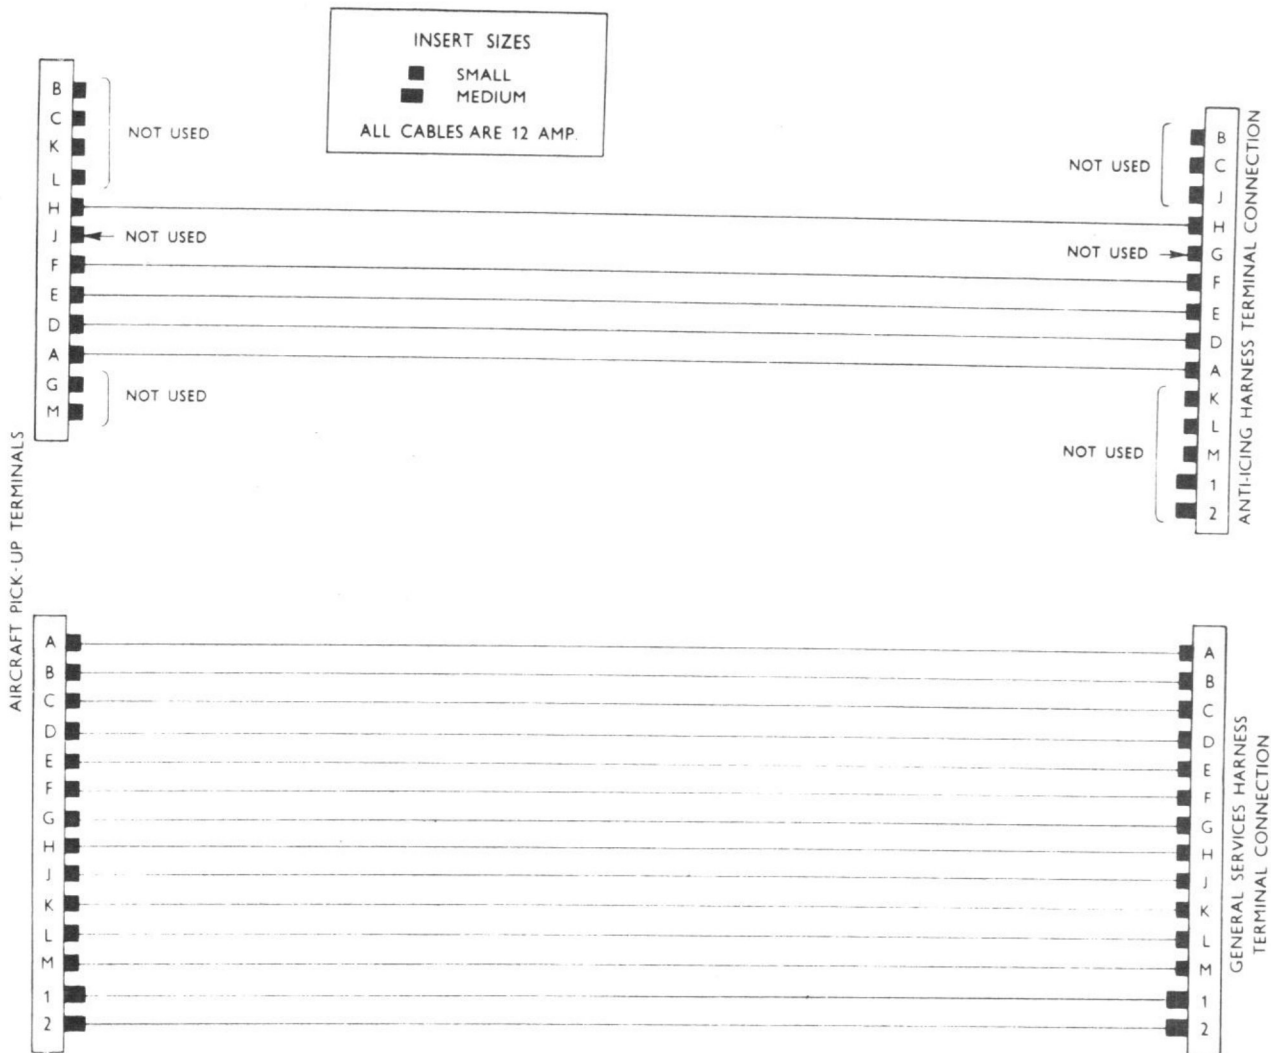

Fig. 2 Aircraft pick-up harness (Mk. 109)—wiring diagram
10. If any of the specified ohmeter readings are not obtained, disconnect the appropriate socket from the component served and check the individual harness leads, using the wiring diagrams (fig. 2, 3, 4 and 5) as a guide. The ohmeter reading should be very low, e.g. 0.1 to 0.2 ohms. If the readings obtained are still unsatisfactory, the harness should be changed.